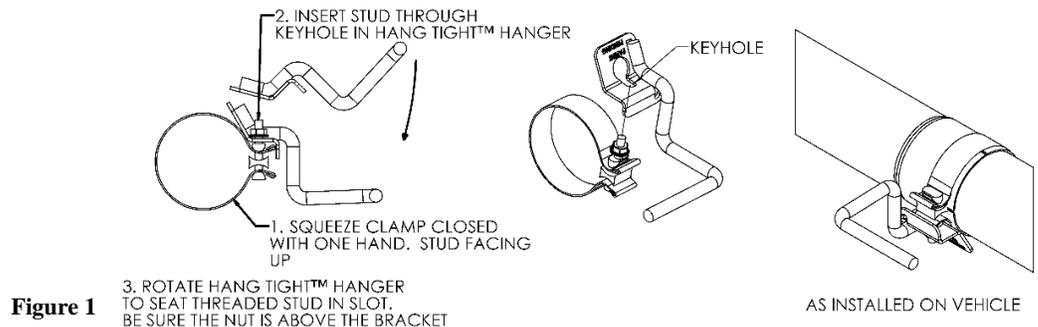

Figure 1
1. Hang the **Rear Hang Tight™ Hanger** (See Figure 1 for Hang Tight™ instructions) in the factory rubber isolators located right above where the rear of the factory muffler was located. Temporarily hang the **Muffler** in place and measure from the front of the **Muffler** to the short length of factory pipe attached to the rear of the catalytic converter. This will give you the required length for the extension pipe.